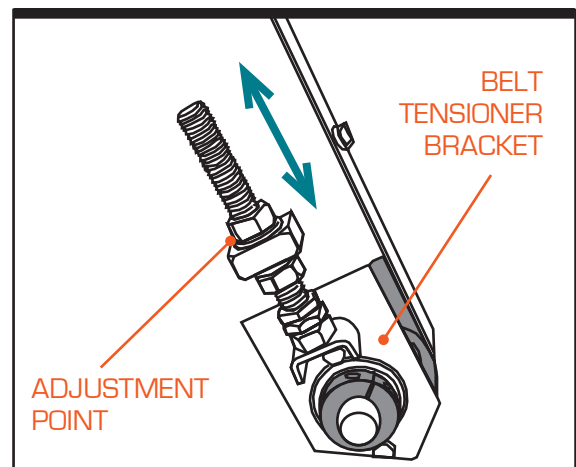

Figure 3-11. Tracking Adjustment of Belt at Tensioner
**Step 12—Adjust Tracking.** Turn the prefeeder on and set to a slow speed to observe tracking of the belt on the elevator. Run a new belt at least several complete revolutions before adjusting the tracking. If the belt pulls to one side or if the belt moves from side to side, adjust the tensioner bracket on the side to which the belt is pulling (see Figure 3-11).
**Step 3–Tension Belt.** Use the tensioner brackets on the base of the prefeeder (see Figure 3-11 on page 23) to remove excessive slack in the belt before beginning tracking.
**Step 4–Turn on Power and Adjust Tracking.** Restore power to the prefeeder and turn it on, setting it to a slow speed to observe tracking of the belt. Run a new belt at least several complete revolutions before adjusting the tracking. If the belt pulls to one side or if the belt moves from side to side, adjust the tensioner bracket on the side to which the belt is pulling (refer back to Figure 3-11).
**Step 5–Adjust Tracking Again.** Run the prefeeder for at least five (5) minutes. Continue to adjust tracking until the prefeeder runs consistently without tracking problems.